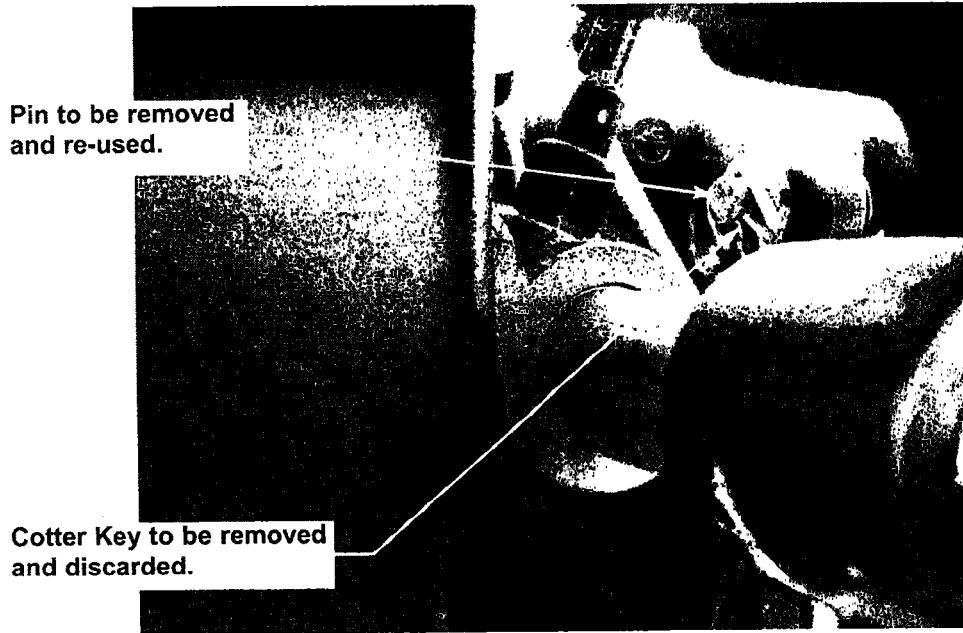

Figure 2
- a. Remove cotter key and pin and discard. **Figure 2**